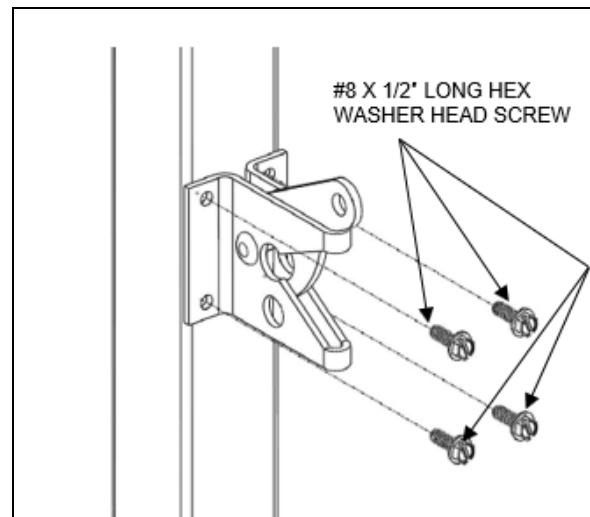

FIG. 7.20
7.8.9. Use a 1/4" nut driver to secure latch using screws (FIG. 7.20).